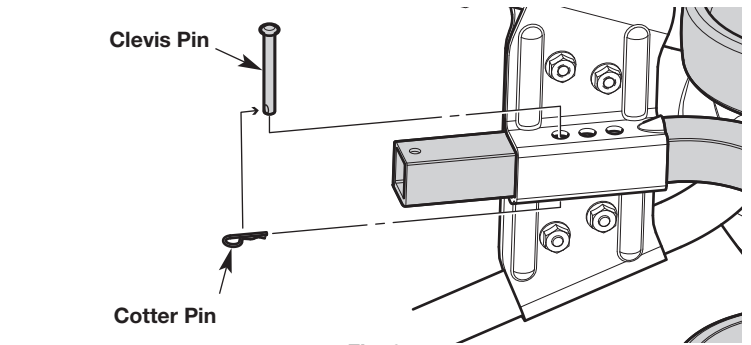

Fig. 2
3. Insert the clevis pin through the wheel bracket and wheel assembly and lock it in place with the cotter pin (Fig. 2).
2. Remove the cotter pin and the clevis pin from the wheel bracket and wheel assembly (Fig. 2).
4. Insert the clevis pin through the wheel bracket and assembly and lock it in place with the cotter pin (Fig. 2).